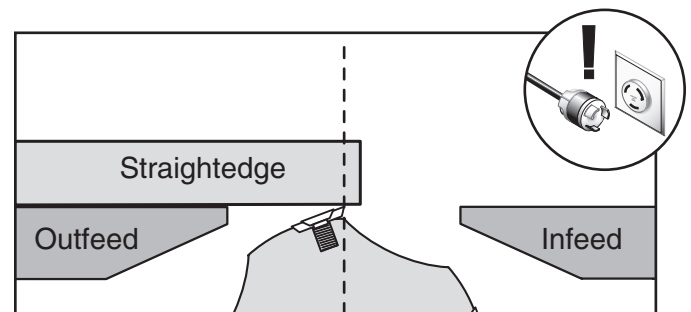

Figure 23. Using a straightedge to align outfeed table height with carbide insert at TDC.
4. Raise or lower the outfeed table until the carbide insert just touches the straightedge (**Figure 23**).